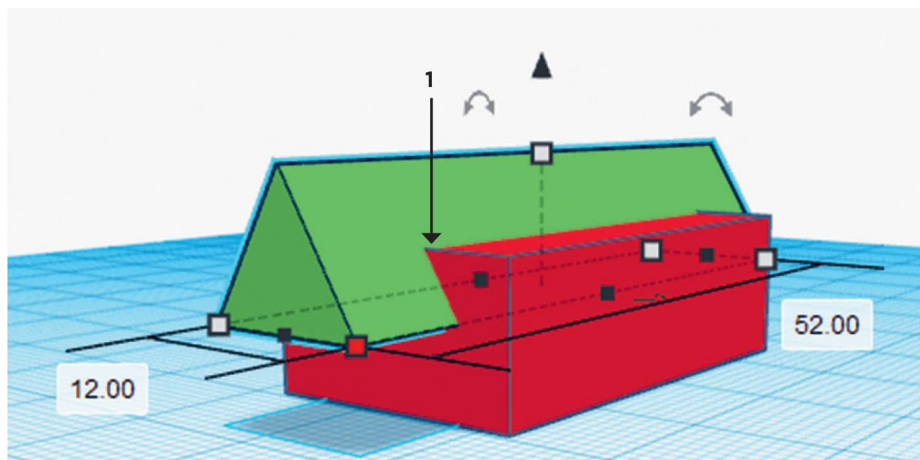

FIG. 1: Position the triangular prism (roof) inside the box.
2. Use the triangular prism **Roof** tool to create the dovetail-shaped socket in the box. The roof should be smaller in width than the box by at least 2 mm. For this project, that is 12 mm. The height should be about the same as the box. Move the roof to center it about the width of the box, and less than halfway in from the top of the box (fig. 1). Arrow 1 shows that the roof is less than halfway in the box, which is important.